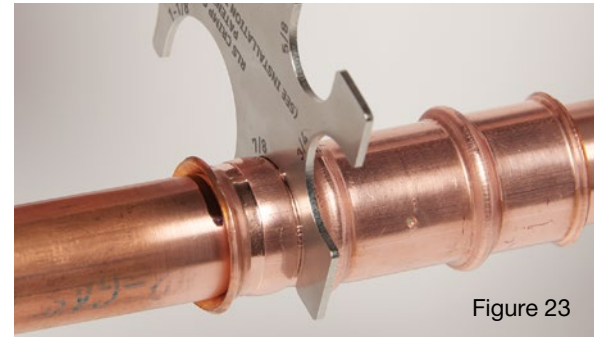

Figure 23
17. The RLS press gauge will confirm the finished press band diameter. The gauge is marked to align with the proper size fitting and press required. When the fitting is properly pressed, the RLS press gauge allows the marked slot to fit snug on the press band (Figure 23). If the press band is unable to fit within the marked slot on the gauge, it is under-pressed and will need to be re-pressed starting with Step 12.